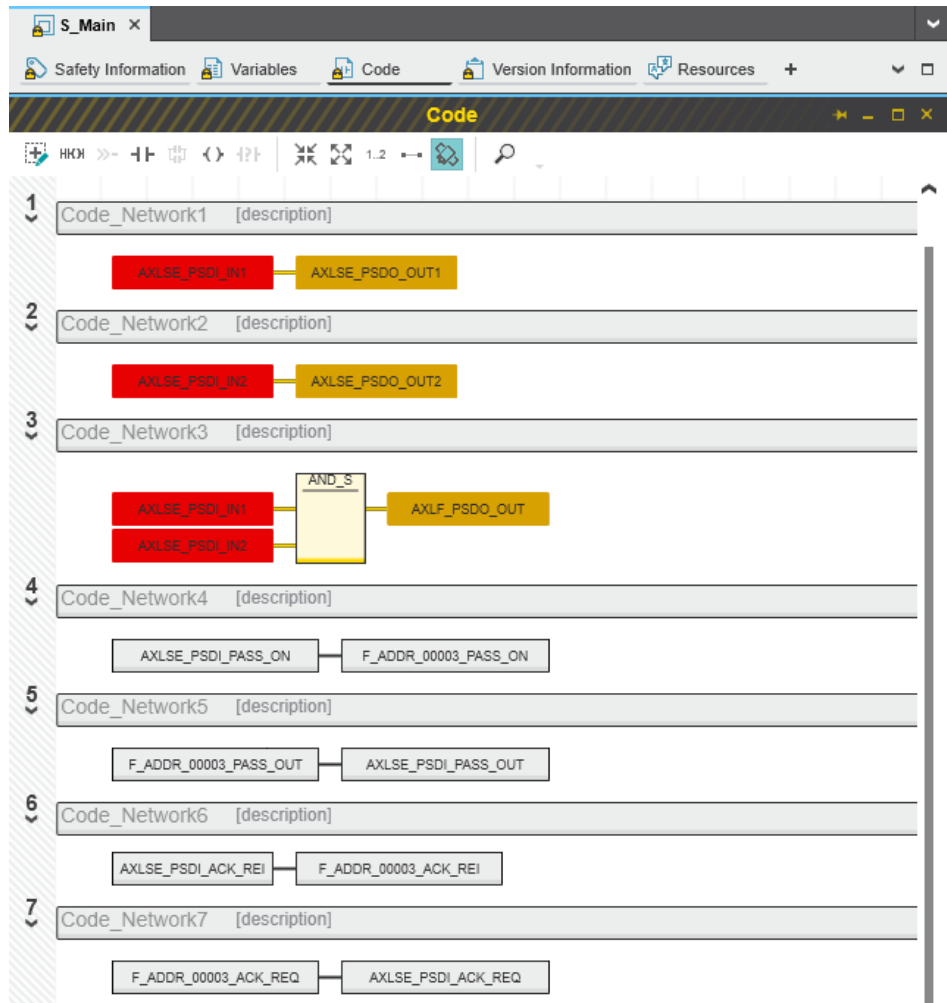

Figure 6-38 Safety-related example program with errors displayed
The safety-related example program in Figure 6-38 on page 107 includes the following functions:
- Create the program as shown in Figure 6-38 on page 107.
The errors and warnings shown in Figure 6-38 on page 107 (color-coded input and output variables in networks 1 to 3) are due to the fact that no process data has yet been assigned to these variables. You will execute this step in the following section.